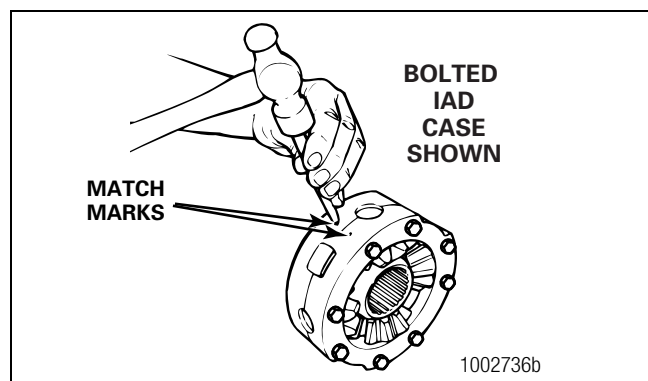

Figure 3.31
- A. Use a punch and hammer to place an alignment mark on each half of the inter-axle differential case. The alignment marks will help you mate the case halves correctly during assembly. Figure 3.31.